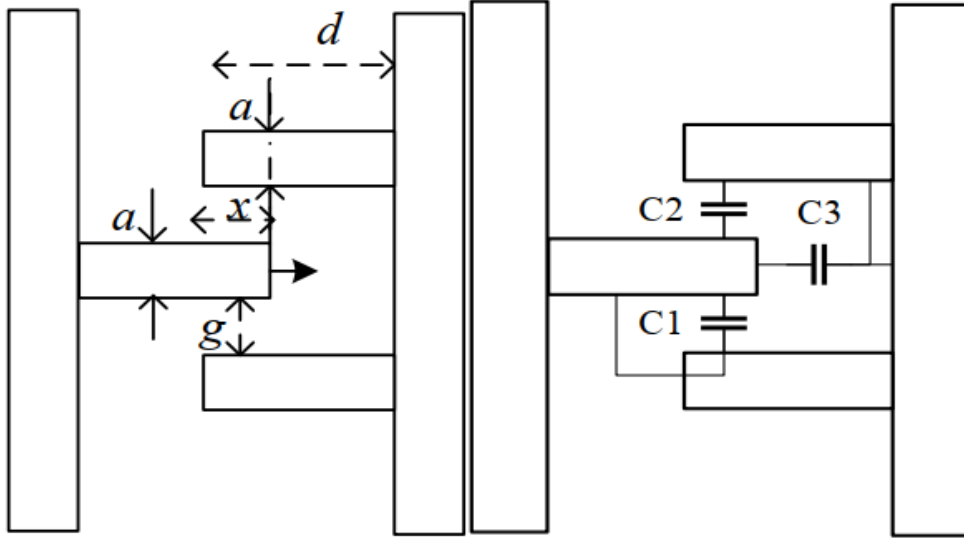

Figure 2. Schematic of the driving part.
- In this work, we focus on developing a series switch using a CPW structure as shown in Figure 1. Under applied external bias voltage, the electrostatic force pulls the cantilever towards the bias pad. The voltage that provides sufficient force that can turn the switch to an ON state is the actuation voltage. Once the external bias voltage reduces, the cantilever starts to restore to its initial position and returns to the OFF state under zero bias. In Figure 2, the switch's ON/OFF states are presented.
Figure 2. The OFF and ON states of the RF MEMS switch under different DC bias conditions. The cantilever to bias pad gap g and dimple to CPW distance g_1 are both marked. (a) The Switch is under OFF state. (b) The Switch is under ON state
- Compared with thermal driving, electrostatic driving has the following characteristics: the driving current is small, approaching zero; as a consequence the resistance loss is extremely small; and the structure of the EFS is sufficiently sound to not be broken by heat. A schematic of the electrostatic driving structure is shown in Figure 2.